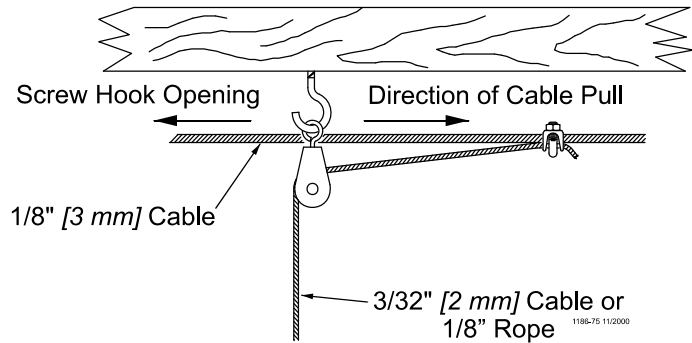

Figure 2. Screw Hook Installation
Screw the threads all the way in to prevent bending. The opening of the hooks must point away from the direction the cable pulls. See **Figure 2**
3. After the screw hooks or ceiling hooks have been secured to the trusses, install the pulley assemblies as shown in **Figures 2 & 3**. Make sure the screw hooks or ceiling hooks are pointing in the proper direction (opposite the winch).